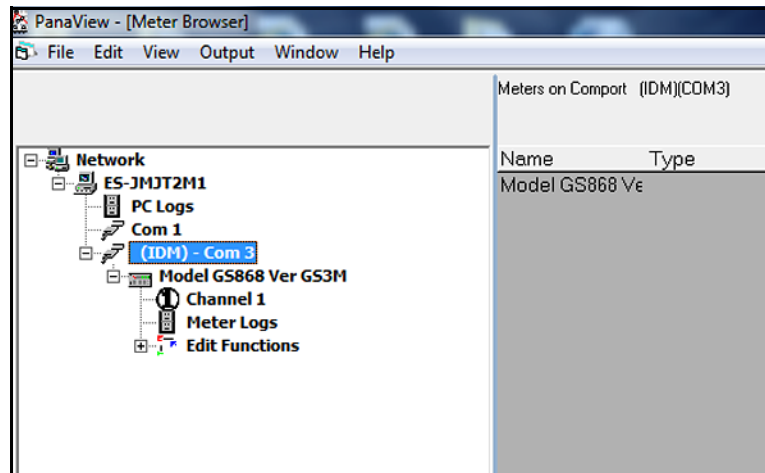

Figure 49: The Serial Port Branch
2. Fully expand the *network tree* and highlight the chosen communication port (see *Figure 49* below).